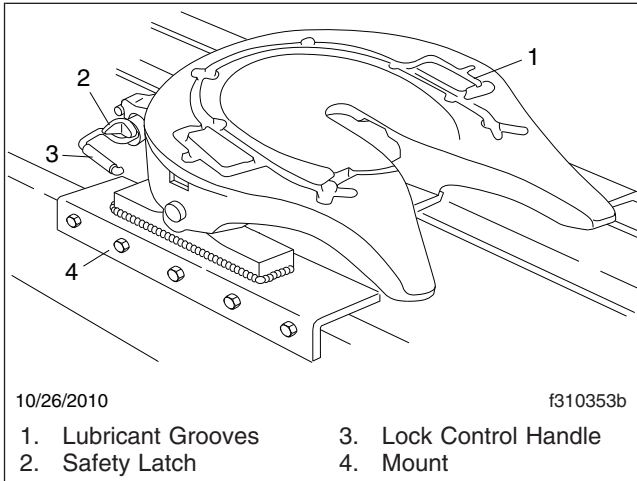

Fig. 5, Simplex Series Fifth Wheel
- When the wheel is locked, the safety latch must swing free and fall freely into position. See Fig. 5.